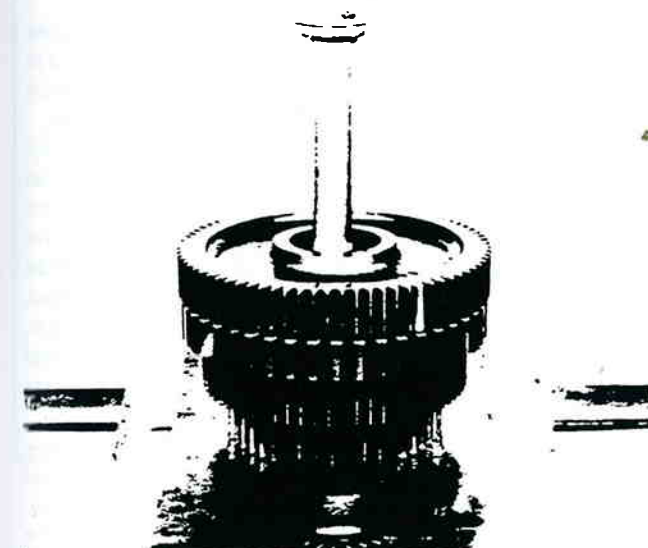

Figure 13-78. Pressing Gears Off Countershaft.
4. Press the drive gear, PTO gear, 4th speed gear, and 3rd speed gear from countershaft. Use caution when pressing gears as it is necessary to press these gears off in a cluster of four (figure 13-78).